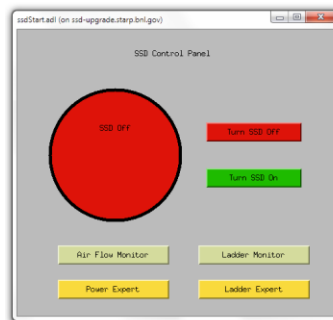

Figure 1. Main SSD GUI
- 1) If you see the GUI on Figure 1 please proceed to step 2, If not then do: